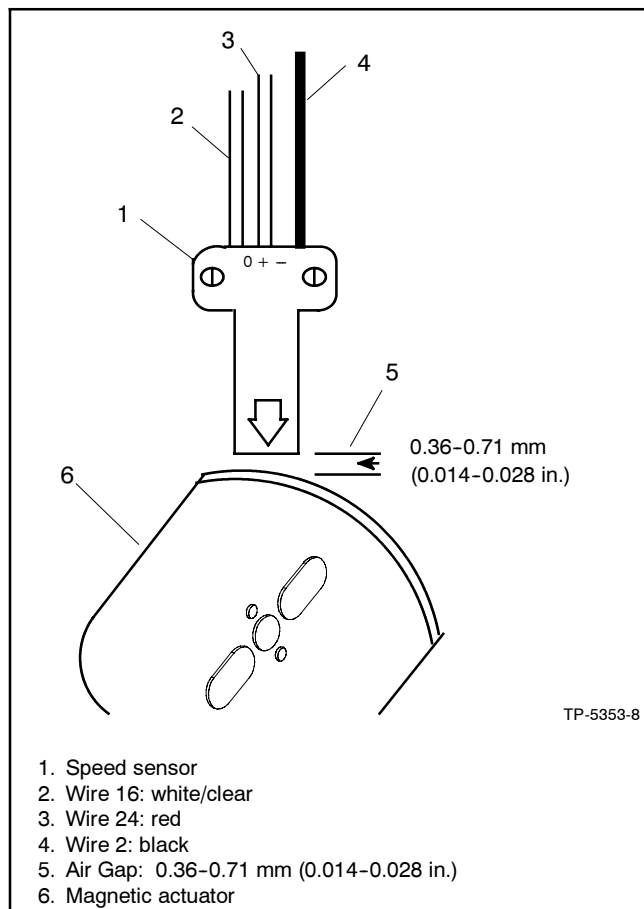

Figure 4-24 Speed Sensor Air Gap
27. Install the speed sensor to the end bracket. Adjust the air gap. See Figure 4-24.